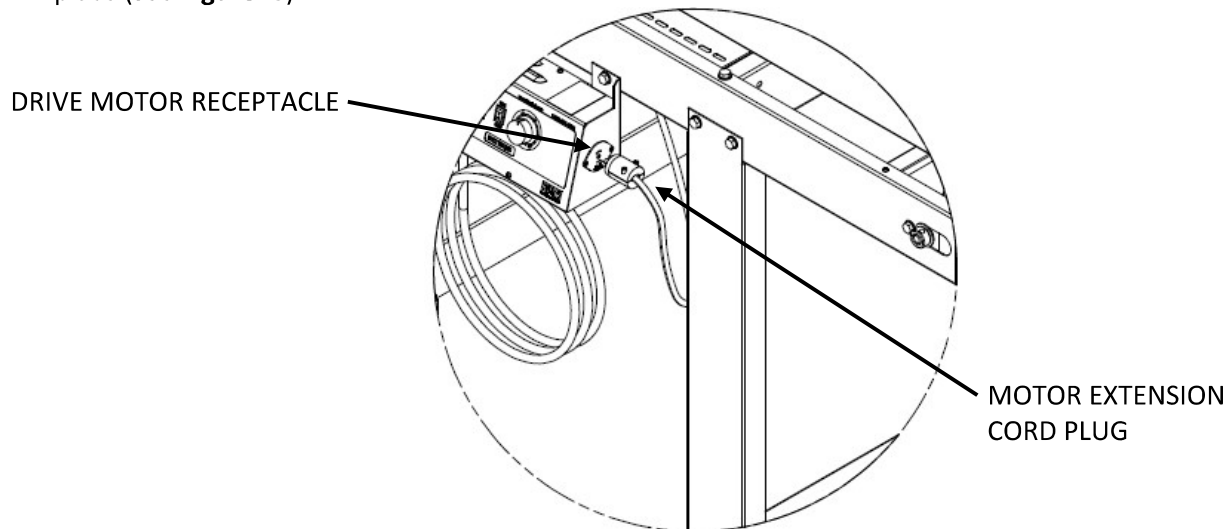

Figure 10
2. Insert **DRIVE MOTOR PLUG** into **MOTOR EXTENSION CORD RECEPTACLE**. Twist plug to lock in place. Insert **MOTOR EXTENSION CORD PLUG** into **DRIVE MOTOR RECEPTACLE** on the **CONTRTOL PANEL**. Twist plug to lock in place (see **Figure10**).